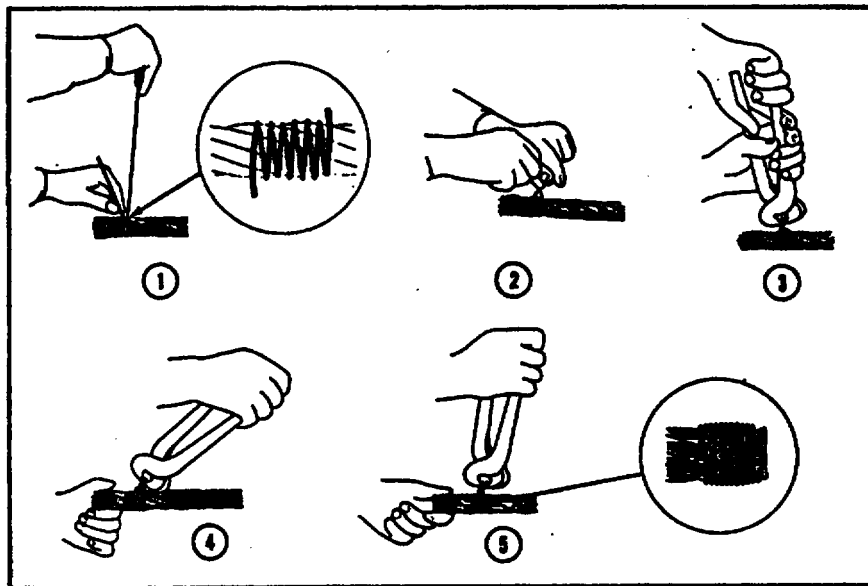

Fig. 2-14 Applying wire rope seizing
- (1) To make a seizing on wire rope, wind annealed iron seizing wire onto the rope by hand, keeping the coils tight, with considerable tension on the wire (**See Figure 2-14**).
- (2) Twist the ends of the wire together counter-clockwise, so the twisted portion of the wires is near the middle of the seizing.
- (3) Do not try to tighten the seizing by twisting; tighten the seizing by prying the twist away from the axis of the rope.
- (4) Tighten the twist again Repeat (3) and (4) as often as necessary to make the seizing tight. When done, cut off the ends of the wires and pound the twist close against the rope.